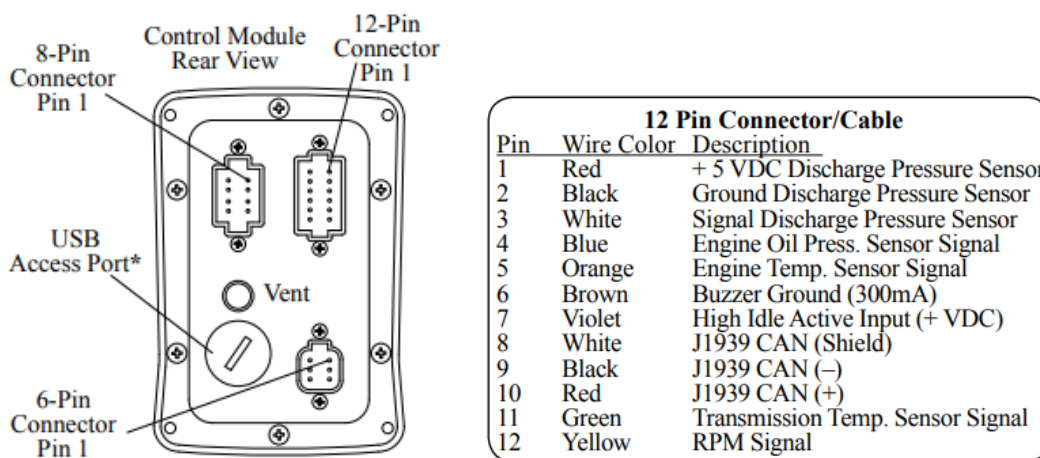

Figure 5.2
- 2) Connect the ground wire from the alarm to Pin 6 on the 12-pin connector on the governor. See figure 5.2